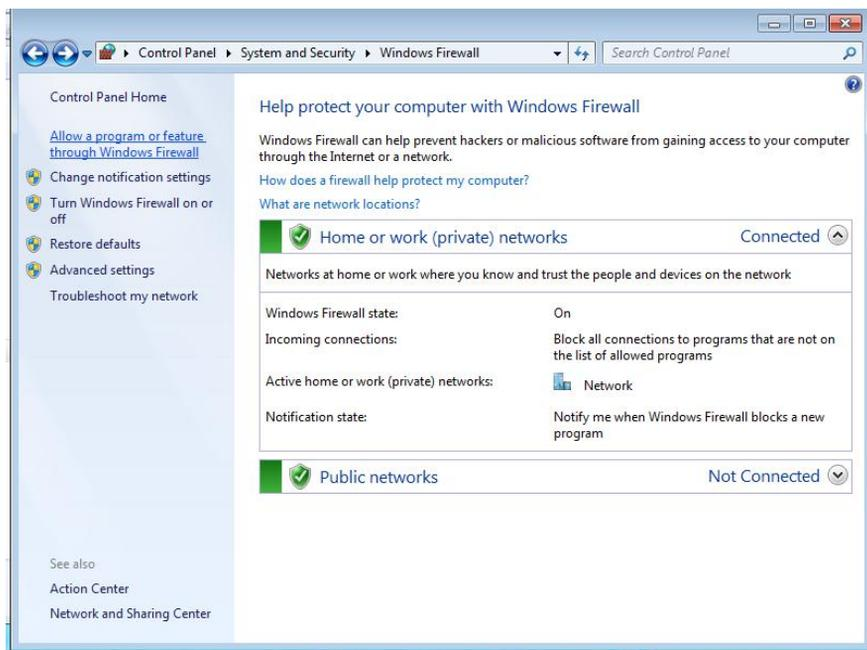

Fig.1.17 Windows Firewall
(4) Click "Allow a program of feature through Windows Firewall" (see Fig.1.17).